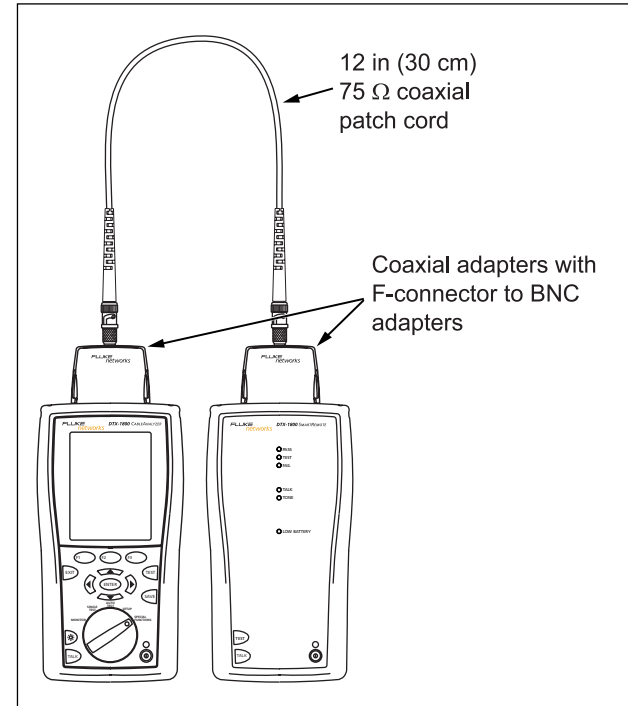

Figure 16. Coaxial Reference Connections
- 1 Attach coaxial adapters to the main and remote testers, screw in the F-connector to BNC adapters; then make the connections shown in Figure 16.